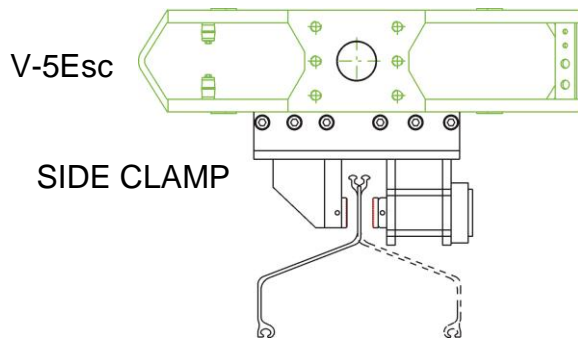

FIG. 1
3. **DANGER:** The V-5Esc side clamp attachment is designed to handle a single pile with a **MAXIMUM** weight of 4,000 lbs. Appropriate pile lifting rigging should be supplied by the end user to handle the pile in a safe manner. Attach an independent set of rigging to both shackles on the hammer to allow picking the pile and placing it in the jaws as shown in figure 1.